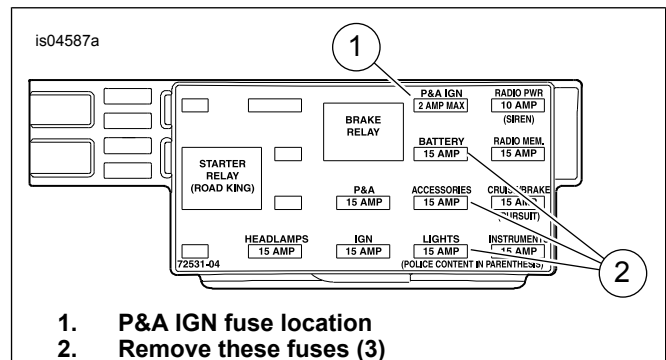

Figure 10. P&A IGN Fuse Cavity (2004-2007 Touring Models)
3. **2004-2007 models:** See Figure 10. Locate the fuse cavity marked "P&A IGN", "2A MAX" (1). There is a terminal in only one side of this cavity. Remove the three fuses (2) currently installed in this row, noting their location.
2. Obtain the orange/white fuse block adapter wire (11) from the kit. Note the terminal on each end (see Figure 10, **upper view**). Only the terminal **WITH the spring tabs** will fit into the fuse cavity. Carefully cut the terminal **WITHOUT** spring tabs from the wire and discard it.